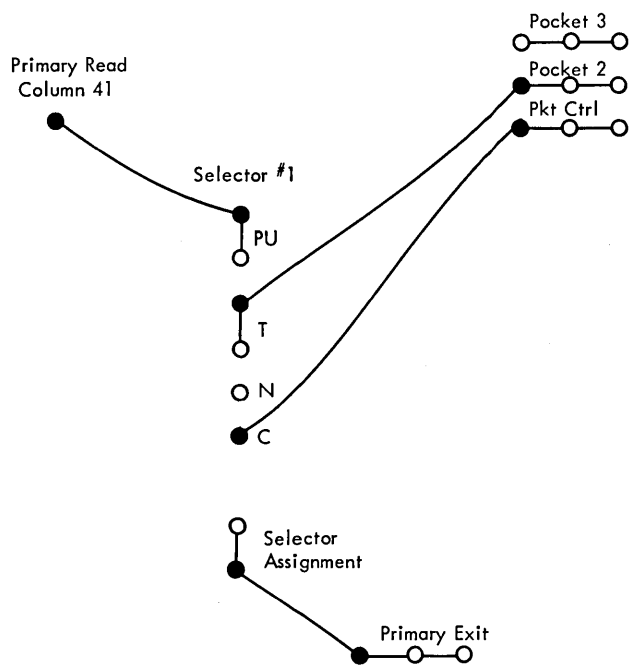

Figure 36. Alpha Sequence Pocket Selection Wiring.
2. Wire pocket selection as shown in Figure 36.